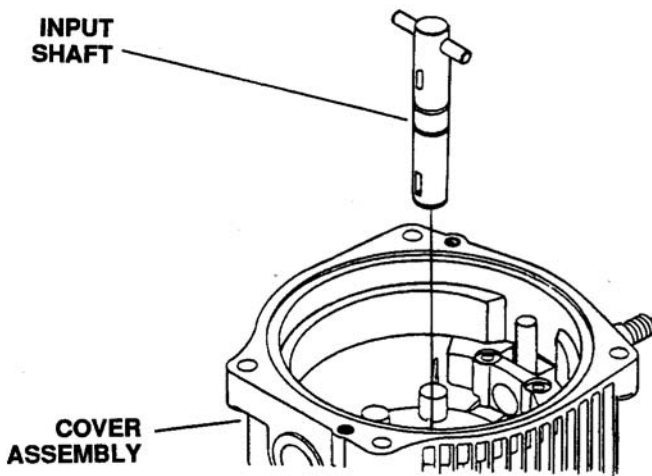

Figure 6-110. Removing Input Shaft From Cover Assembly
- a. Reposition cover assembly as shown and remove the input shaft. See Figure 6-110.